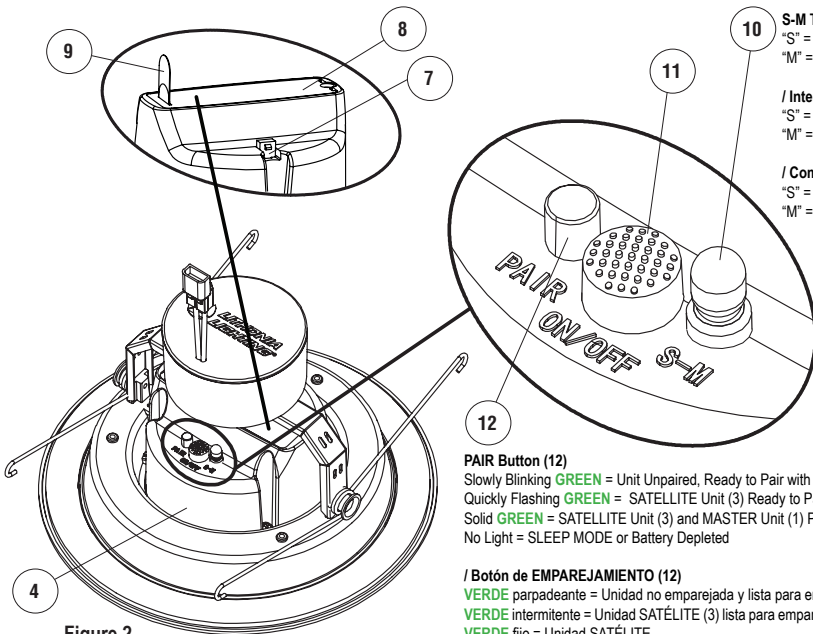

Figure 2 / Figura 2
- Every speaker downlight is preset as a MASTER Unit (1), but can be set as a MASTER Unit (1) or a SATELLITE Unit (3) by toggling the S-M Switch (10).
- Pair the MASTER Unit (1) to your Bluetooth® enabled device (2) on a table top prior to installing to permanent location. This makes it easier to pair the Speaker (4) and see the color of the Indicator Lights (5 & 6) on the unit. Play music during the pairing process for easy identification and to ensure the connection is successful.
1. Remove Protective Tab (9) from Battery Cover (8) on back of Speaker (4) (Figure 2).
3. Press ON / OFF Button (11) for 2 seconds until you hear an audible tri-tone, low-to-high chime. The PAIR Button (12) will start blinking **GREEN**. This indicates the Speaker (4) has been activated (Figure 2).
4. Press and hold the ON / OFF Button (11) until you hear an audible 4-tone, high-to-low chime to turn off the Speaker (4).
5. Remove Power Plug (17) from the AC120V electrical outlet, then disconnect the plug from the fixture.
6. Confirm the unit is in MASTER MODE by ensuring the S-M Switch (10) is toggled towards the letter "M" on the back of the Speaker (4) (Figure 2).